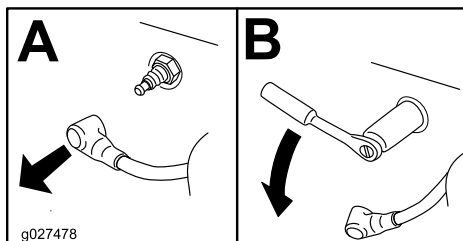

Figure 39
2. Remove the spark plug as shown in Figure 39.